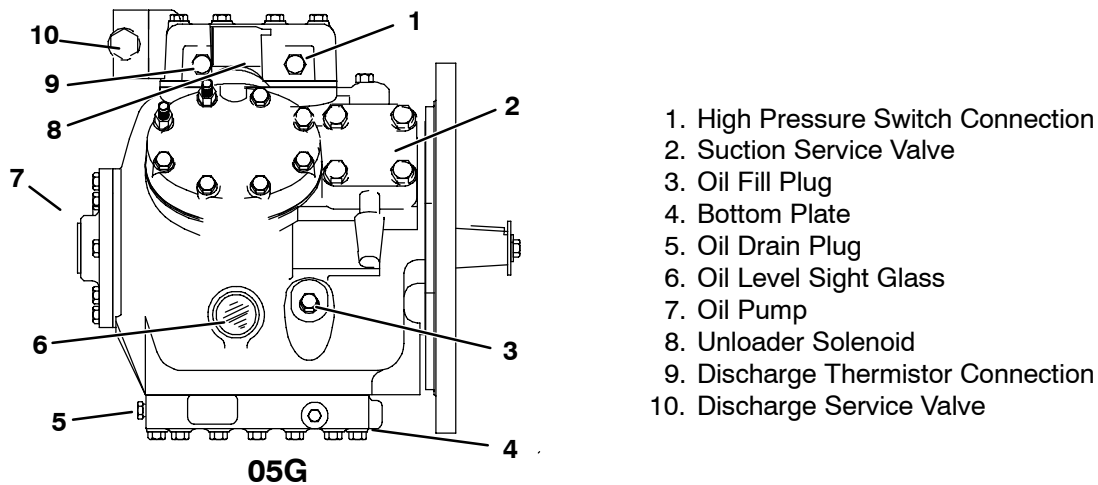

Figure 8-18. Compressor
One compressor oil pump that may be purchased is a Robinair, part no. 14388. This oil pump adapts to a one U.S. gallon (3.785 liters) metal refrigeration oil container and pumps 2-1/2 ounces (0.0725 liters) per stroke when connected to the oil fill (item4, Figure 8-18). Also there is no need to remove pump from can after each use.
Backseat suction service valve and connect oil charging hose to oil fill (item4, Figure 8-18). Purge the oil hose at oil pump. Add oil as necessary (Refer to Section 7.5).
Add correct oil charge (Refer to Section 7.5) through the suction service valve flange cavity or by removing the oil fill plug (See Figure 8-18)
- Disconnect wiring from defective switch, and remove old switch. The HPS is located at the side of the center compressor cylinder head. (See Figure 8-18)